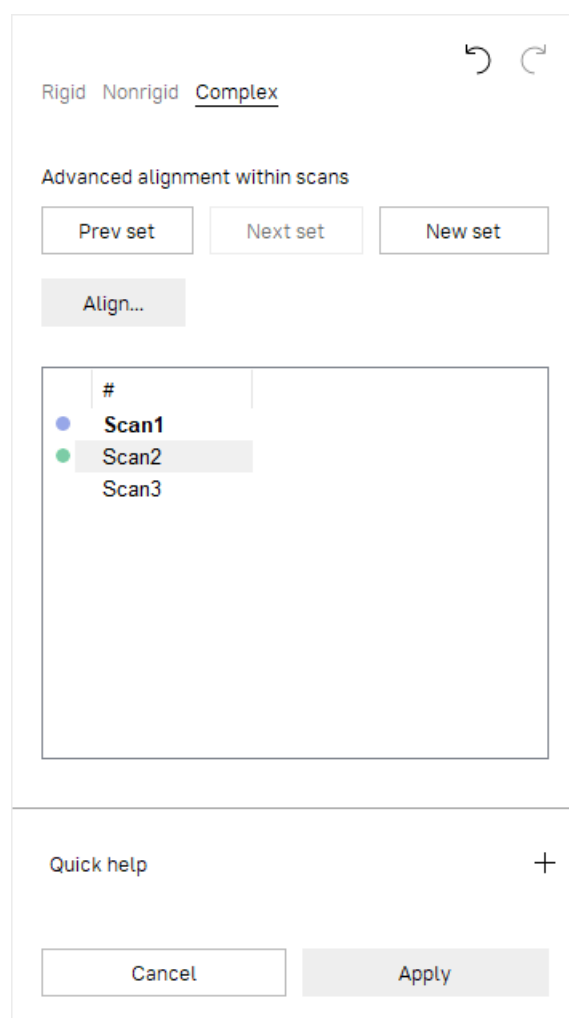

Figure 86: *Align* panel: *Complex* tab.
1. Make sure the *Complex* tab is selected (see Figure 86).